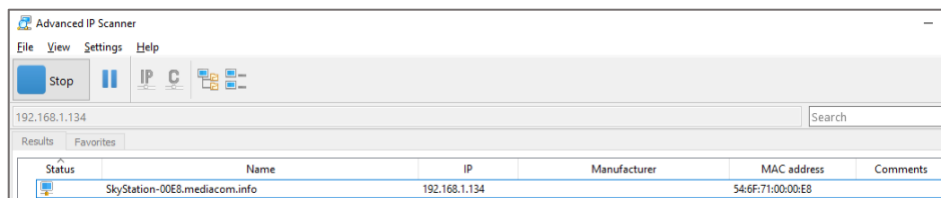

Figure 11: Example of Advanced IP Scanner showing a SkyStation IP Address
2. Use a network scanning tool (e.g. Advanced IP Scanner) to look for a device named “SkyStation-XXXX” (XXXX should match the four hex characters of the last two bytes of the device’s MAC address). See Figure 11.